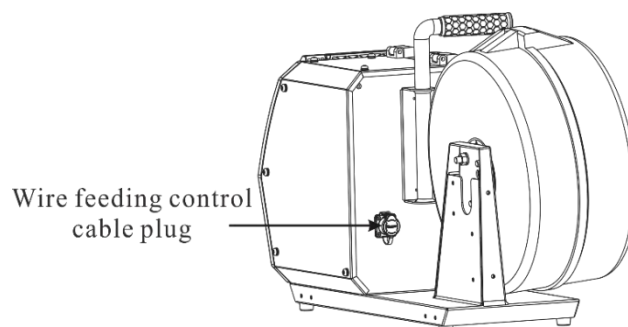

Figure 2-3 Diagram of back-side connector of wire feeder
2. Insert the other end into the socket on the back side of wire feeder and tighten it. The wire feeder control cable connection is finished, as shown in Figure 2-3;